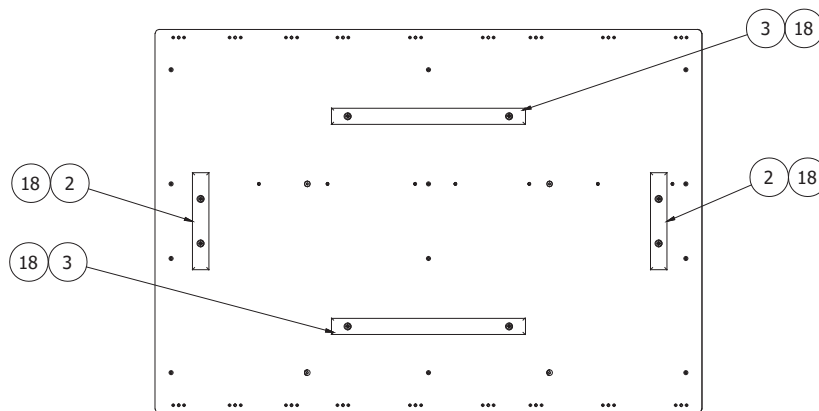

Figure 3
2. Secure the floor brackets to the floor panel with noted fasteners per Figure 3.